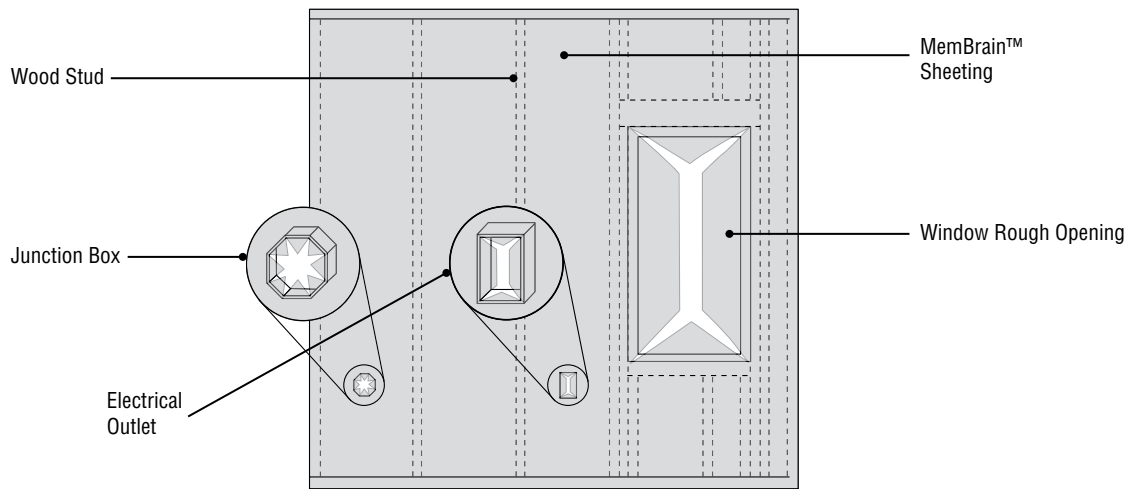

Figure 7: Cut MemBrain™ sheeting to tightly fit penetrations.
- Cut and fit the MemBrain™ sheeting tightly around the penetrations. (See Figure 7)
Window and Door Treatment – Figures 7 through 10
- Slit the film at the corners. (See Figure 7)